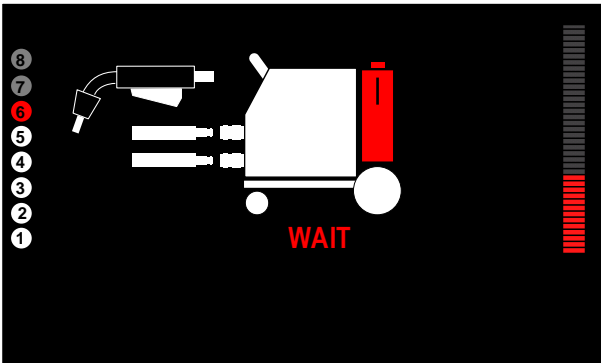

Figure 20
- Wait until the coolant fully circulates through the cooling system - (Figure 20).